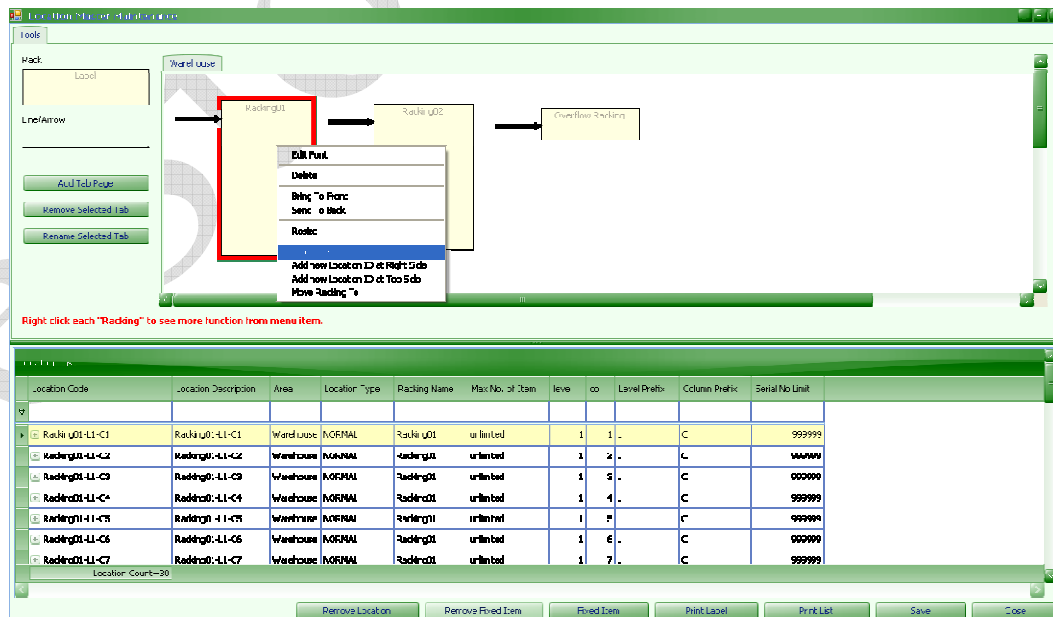

Fig. 15
Step 2 Clicks “Properties”. (Fig. 15)